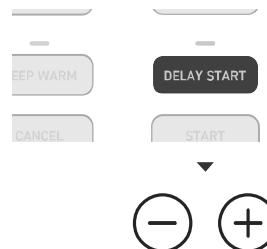

Figure 9.1
3. Press the – or + buttons to adjust the delay start timer from 10 minutes (00:10) to 24 hours (24:00). [Figure 9.1]